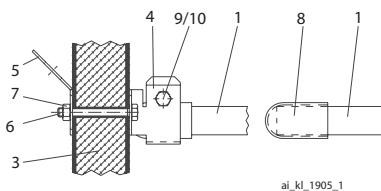
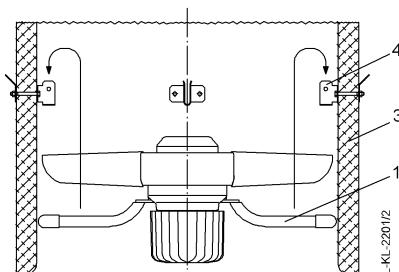

figure 2
figure 3
Tighten the mounting bracket (4) and the support bracket (5) **fig. 2** with screws (6) only so far that the mounting bracket and support bracket do not dig into the chimney wall (3). Self-locking nuts (7) are used for securing the screws. The enclosed protective caps (8) are to be pushed onto the ends of the fan supports (1), **fig. 2**.
Feed the fan (1) into the chimney in accordance with **fig. 3**, and center it in the mounting bracket (4). In addition, the support is to be secured in accordance with **fig. 2** by using bolts (9/10).